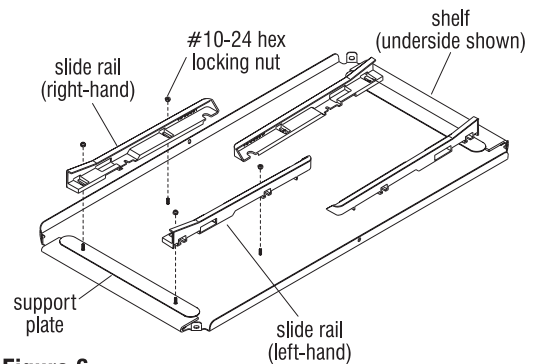

Figure 6
2. Remove hex nuts and discard as they will not be re-used (Figure 6).
3. Locate and identify the left-hand and right-hand slide rails, then orient them as illustrated with larger openings facing away from center of shelf. Install onto threaded posts and support plate with eight supplied #10-24 hex locking nuts (Figure 6).